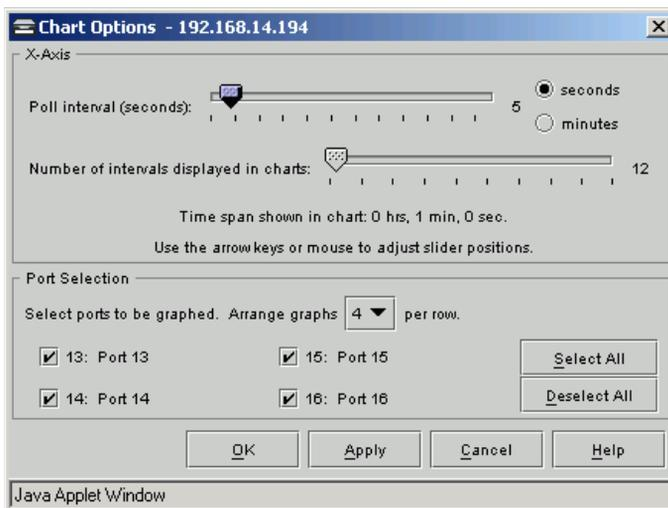

Figure 6-20 Chart Options Dialog Box
2. Click the *Options* button to display the *Chart Options* dialog box (Figure 6-20) to adjust the polling rate, amount of time displayed in each graph, and the ports to be displayed.